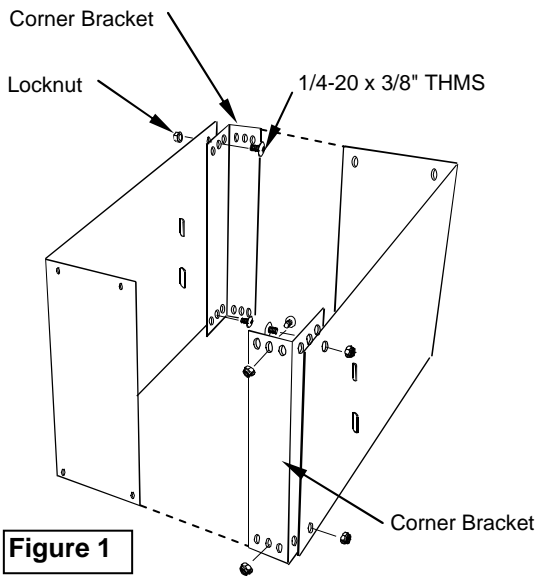

Figure 1
- B. Adjust the CPU Sling to the height and width of your CPU using the three adjustment holes and attach the corner brackets to the CPU sling using the 1/4-20 x 3/8" Truss Head Machine screws and 1/4-20 Locknuts as shown in **Figure 1**. The screws install from the inside with the locknuts on the outside. Note the positions of the corner brackets for the top and bottom sides of the CPU sling (**Figure 1A**.)